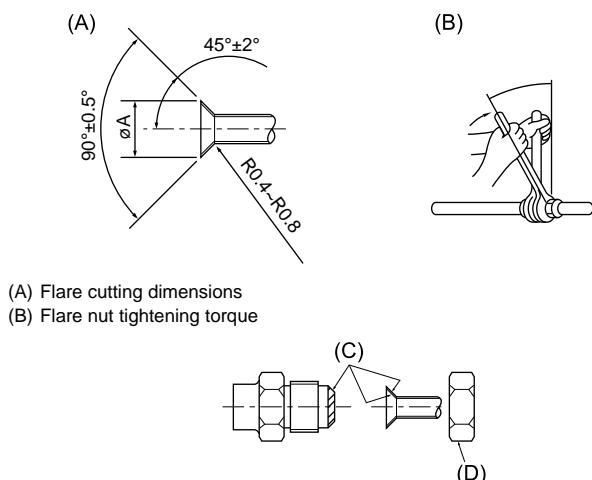

Fig. 4-1
4.2. Connecting pipes (Fig. 4-1)
- Apply thin layer of refrigerant oil to pipe and joint seating surface before tightening flare nut. (A)
- Use two wrenches to tighten piping connections. (B)
- Apply refrigerating machine oil over the entire flare seat surface. (C)
- Use the flare nuts for the following pipe size. (D)
(A) (Fig. 4-1)
(B) (Fig. 4-1)